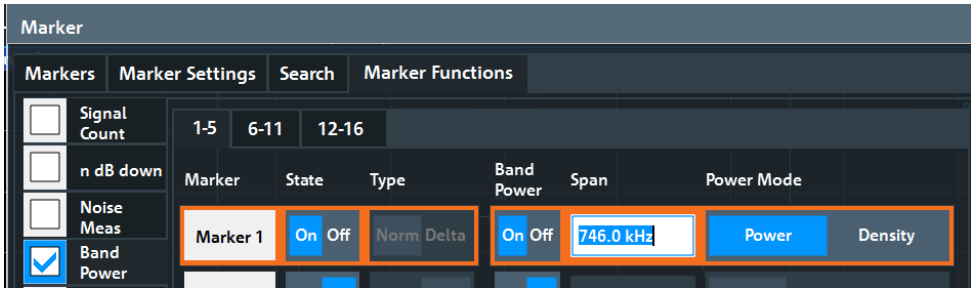

Figure 2-6: Entering channel bandwidth for emission output power measurement
18. Press the *Select Marker Function* menu key and select the *Band Power* function. In the *Span* field, enter the value noted down for  $OBW_{SF12}$  (Figure 2-6) and close the window.